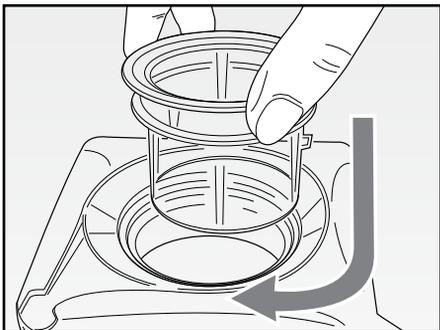

Fig. 4
- Close the upper hole of the lid (B) by inserting the apposite cap (A) and rotating it clockwise (Fig. 4). Make sure the lid (B) and the cap (A) are properly inserted to prevent food from coming out during the processing stages.
- Plug power cord into a socket. The function panel (F) and the function selecting dial (G) will light. The ON-OFF button (L) will become red indicating that the appliance is ready.
- Press the ON-OFF button (L) and select one of the functions that can be seen on the function panel (F) by rotating the apposite dial (G). The function icon will flash.
- Once having selected the required function, press the ON-OFF button (L) that will become green and the appliance will run automatically: